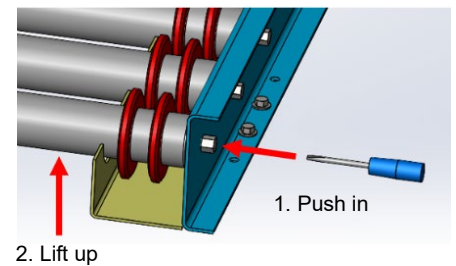

Figure 12 –
- To remove a roller, use a screwdriver (or similar object) to press in the spring-loaded hex axle on the sprocketed side of the roller. Use the screwdriver (or object) to push the axle in, and simultaneously use your hand to pull up on the roller to remove it from the frame. See *Figure 12*.